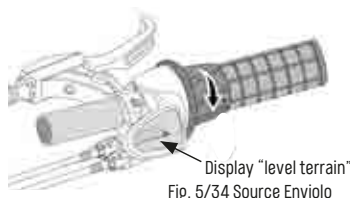

Fig. 5/34 Source Enviolo
- Anticlockwise rotation: Display shows "level terrain" ("Fig. 5/ Source Enviolo" on page 34). This transmission should be selected for faster travel.